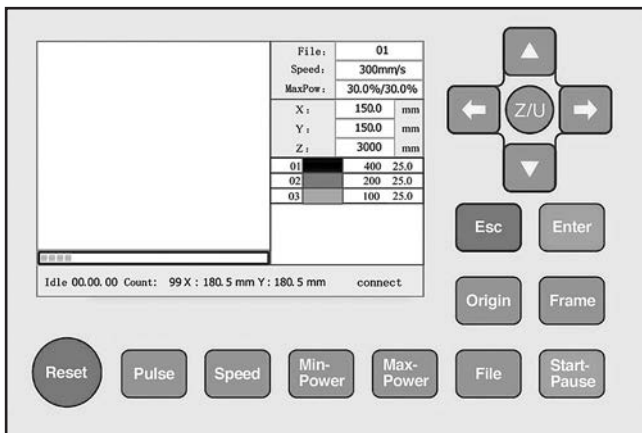

Figure 24. Example of screen display during startup.
- Screen display will show system status (see **Figure 24**), and after one audible *beep*, laser head assembly will begin homing to upper right corner of table.
- Screen display will show system status (see **Figure 24**), and after one audible *beep*, laser head assembly will home to upper right corner of table before moving to origin (or position of last cut).